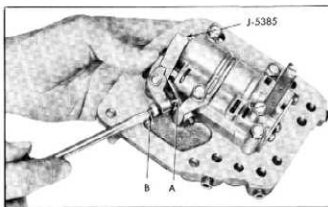

Fig. 191—Setting (2) of Throttle Valve Inner Lever Adjustment
- Place throttle valve inner lever positioning gauge, J 5385, between the face of the detent valve and throttle valve inner lever. Hold in this position and turn adjusting screw "B" until it contacts threaded body of adjusting screw "A" (fig. 191). Tighten adjusting screw lock nut securely.